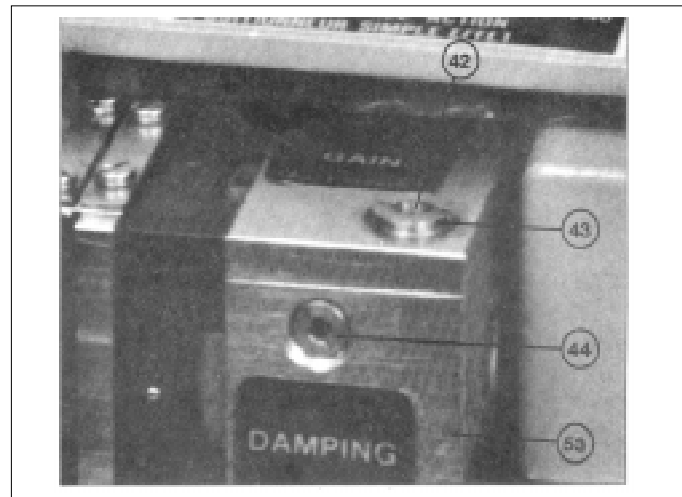
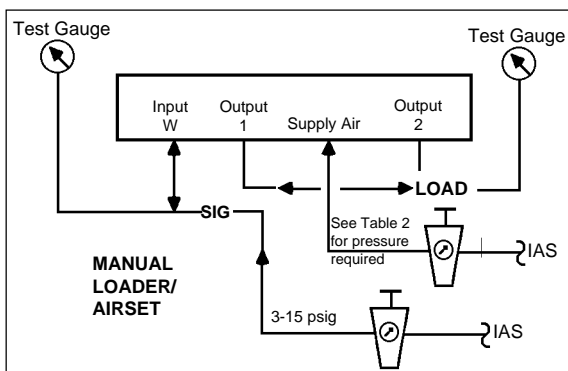

Figure 10
Figure 12
- i. Turn the stroke factor thumbscrew (40) CW; this shortens the valve stroke with respect to the “SIG” change; i.e. less air pressure required to reach valve’s maximum stroke position. Once valve stem moves with each CW adjustment of the stroke factor thumbscrew (40), reverse to CCW rotation of stroke factor thumbscrew (40) and precisely adjust up to the maximum stroke position of the control valve.
4. Press the flapper lever (38) several times to the left and right until the flappers are correctly aligned.
- b. Turn the zero thumbscrew (39) either CW or CCW until the actuator begins to cause valve stem travel. Precisely adjust to the point where travel just begins.
- d. Turn the stroke factor thumbscrew (40) first CCW until observing the shortening of the valve’s stroke. Turn the stroke factor thumbscrew (40) CW until the valve travel is precisely at its full stroke.
- e. Recheck the ZERO and STROKE settings. They should be repeatable. Under this procedure for adjustment, the ZERO and STROKE calibrations are mutually independent (i.e. non-interacting, when the feedback lever (13) and travel stop pin (20) are properly installed and positioned).
B. Setting GAIN: (See Figure 10)
- 2. The open loop gain varies with the supply “IAS” pressure, and the values represent linear amplification. Table 4 is a guide to the gain available for each range spring (41) utilized:
4. Determine whether GAIN should increase or decrease based on above text. To increase GAIN, rotate throttle screw (42) CW; to decrease GAIN, rotate throttle screw (42) CCW. To prevent overadjustment the throttle screw (42) is located within the limiting screw (43). This allows the throttle screw (42) to only be adjustable a total of approximately one revolution from maximum to minimum. Thus, GAIN should be adjusted slowly in very small increments.
C. Setting DAMPING: (See Figure 10)
3. If adjustments are made with the positioner mounted on the control valve, the feedback lever (13) on the main shaft (17) of the positioner must be loosened. (See Section III:8-9).
- a. Set the changeover plate (15) to "N".
- b. Turn the throttling screw (42) CW to its stops (maximum GAIN).
- c. Unhook the range spring (41) from the flapper lever (38).
- d. Check that the flappers (52) are aligned concentrically with the nozzles (51). If necessary loosen the AMPLIFIER mounting screws on the rear of the positioner and align the amplifier (53) sub-assembly accordingly.
- e. Press the flapper lever (38) several times alternately to the left and right, so that the ball-and-socket mounted flappers (52) are aligned parallel to the nozzles (51).
- f. Press the flapper lever (38) to the left. Set the clearance between the right-hand nozzle (51) and the right-hand flapper (52) to 0.6 mm (0.024 in.) with the aid of feeler gauge by turning the hexagonal adjuster (56) with a 6 mm wrench. Then secure the nut against further turning using sealing paint.
- g. Connect the positioner as shown in the test circuit in Figure 12. Provide an "IAS" of 60 psig.
- h. Press the flapper lever (38) to the left. If the output does not rise to the level of the supply air pressure, either leaks are present or the flapper (52) is not correctly aligned (repeat e.).
- i. Hook the range spring (41) onto the flapper lever (38), and provide a 9 psig input "SIG" to port "Input (3-15) W" using a manual loader.
- a. Press the stroke factor lever (19) against the travel stop pin (20).
- b. Set the stroke factor thumbscrew (40) to a high stroke factor (approx. 5/64" before the upper stop).
- c. Turn the zero thumbscrew (39) until the output pressure is 9 psig and make a note of this value.
- d. Set the stroke factor thumbscrew (40) to a low stroke factor (approx. 5/64 before the lower stop). The output pressure may not vary by more than ± 0.003 psig as compared with the setting described in c. above.
- e. In case of excessive deviations the travel stop pin (20) should be adjusted. Whenever the travel stop pin (20) is adjusted, the settings described in b. -to- d. should be repeated until the deviation is less than ± 0.003 psig.
- f. Seal the travel stop pin (20) with sealing paint.
6. Return the changeover plate (15) to its original position if it was "U". Re-tighten the feedback (13) lever onto the main shaft (17) of the positioner (See Section III.B.8 & 9.).
B. Cleaning The Throttle Screw: (See Figure 10)
1. Unscrew CCW the limiting screw (43). If you can't pull it out by hand, unscrew CCW the throttle screw (42) and remove both by hand.
2. Pull the throttle screw (42) out of the limiting screw (43).
3. Place the throttle screw (42) in a solvent (e.g. benzene) and blow through it carefully. It is best to clean in an ultrasonic solvent bath.